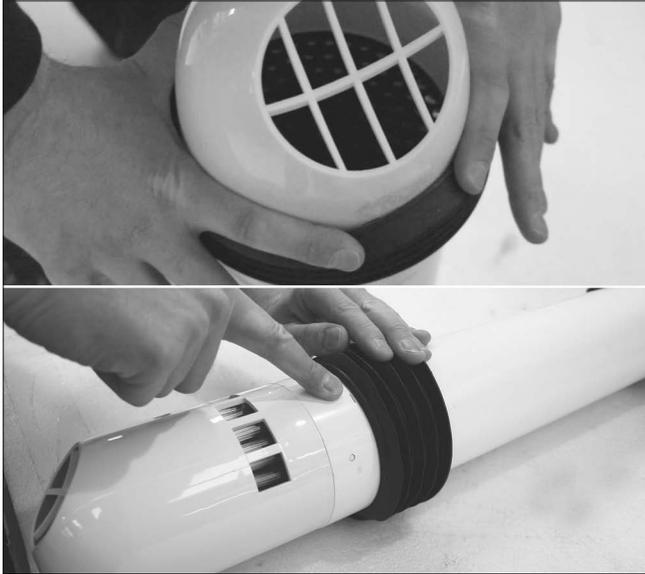

Fig.17A
- 17 Take the wall seal and fit it over the heat cell. The seal must be fitted inside the wall depth. Use the marked seal line as reference (Fig.17A).